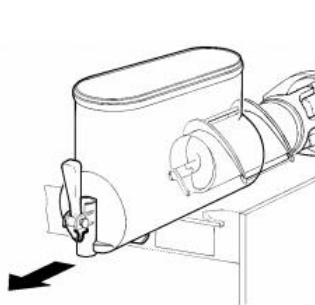
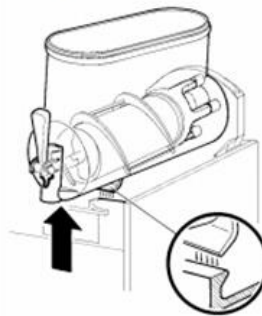

figure 6
figure 5
- 2 Remove the bowl by lifting its faucet side up and off the fastening hooks (see figure 5) and slide it out (see figure 6).